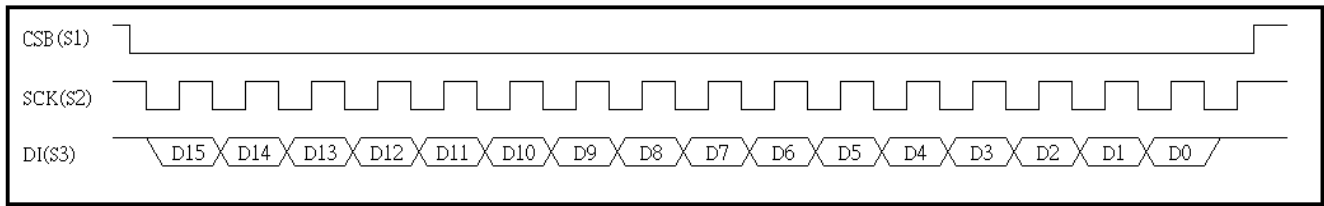

Fig.11 SPI Command timing
- a. Command timing reference Fig.11 SPI Command timing.